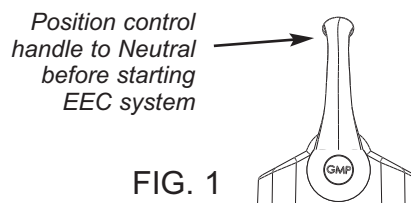

FIG. 1
1. Control Handles must be in the NEUTRAL position prior to starting the system (see FIG. 1).